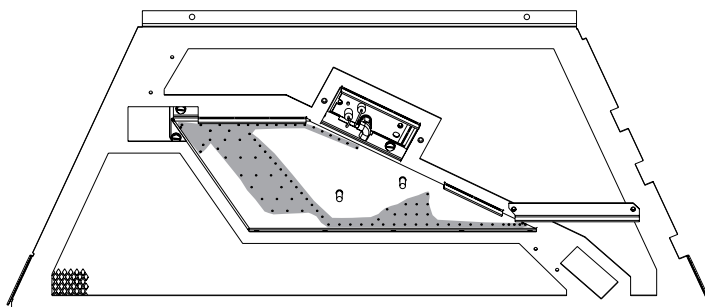

Figure 3
- c. Left and Right burners removed from Figure 3 for clarity. Add embers as shown below.